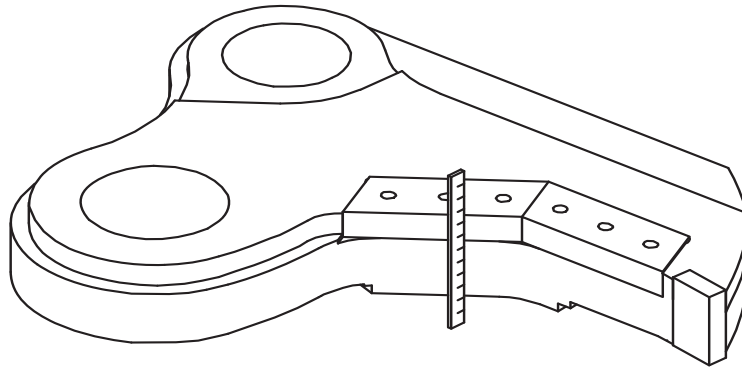

FIGURE 7-44
8. To determine how much build up is required along the blade seats, place a square or straight edge across the blades. Repeat steps 3 and 4 to build up this area flush with the blade (see Figure 7-44).